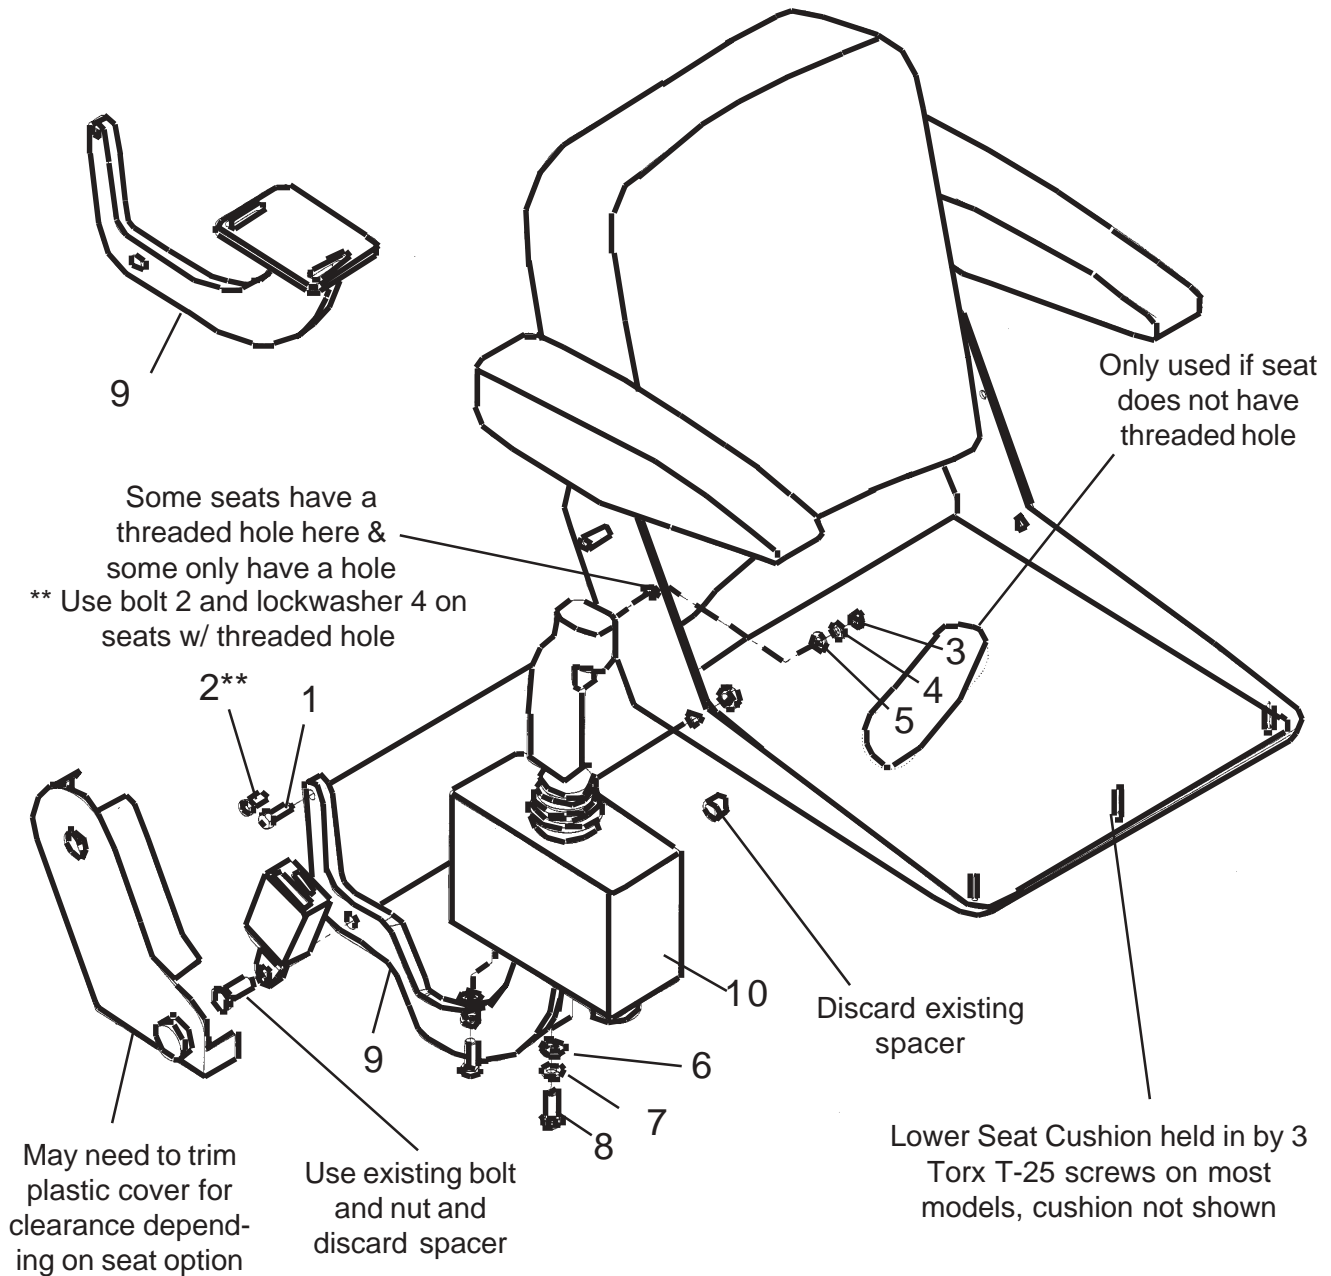

FIGURE 1
1. Hydraulic Tank and Valve Assembly. The Hydraulic Tank, Control Valve and Pump are shipped together (See Figure 1). The Pump should have already been mounted.
5. **Remove Tractor Seat Cushion.** Remove Lower Seat Cushion from Tractor Seat if the upper mount hole is not threaded or the lower (seatbelt Bolt) does not have the nut welded to seat frame, some do and some do not. The Seat Cushion should have three Torx head screws across the front edge (See Figure 1). Once these screws are removed, lift up on the front of the Seat Cushion which should slide forward and out.
6. **Install Joystick Weldment Seat Mount.** Remove the plastic cover as shown in figure 1 on the right hand side of seat. Remove the existing bolt that retains the seat Belt receptacle, there is a spacer between the seat belt buckle and the seat base. This spacer will be discarded and not used. The Joystick Stand Weldment will be retained using two bolts, the top bolt on some models (seat options) will have a threaded hole and have metric threads and require only bolt and washer (items 2 & 4). Some will have just a hole and will require nut and washers (items 3,4,5). The Second Bolt will be the existing bolt that held seat belt receptacle on, with the spacer removed and joystick stand installed the length requirement will be the same. Reinstall the plastic cover (trim if required).